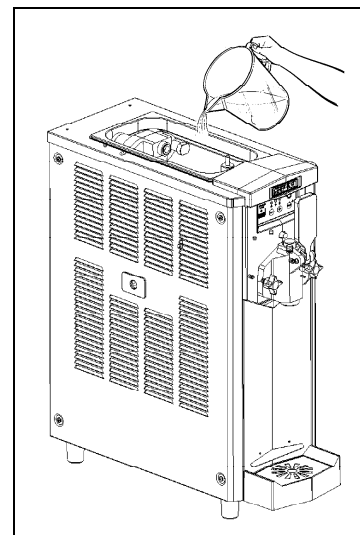

Fig. 6
- Pour the mix into the top tank (fig. 6) and wait for it to flow into the freezing cylinder.